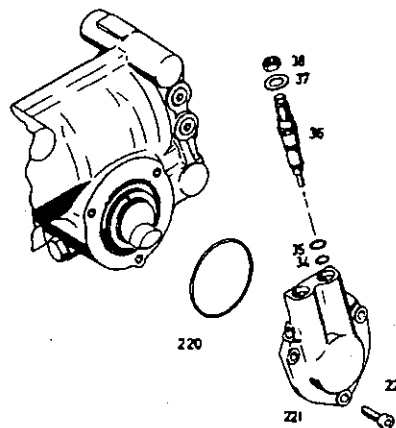

Fig.6
4.1 Versions with valves (36) - steering limiter valves
Unscrew hex nut (38) and remove washers (37) (Fig.6).